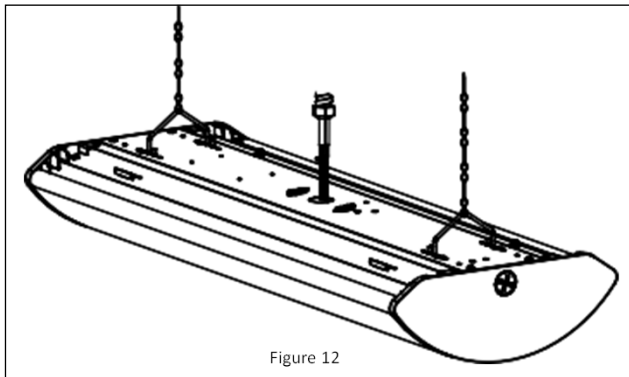

Figure 12
4. Attach your conduit to the knockout. **See Figure 12.**